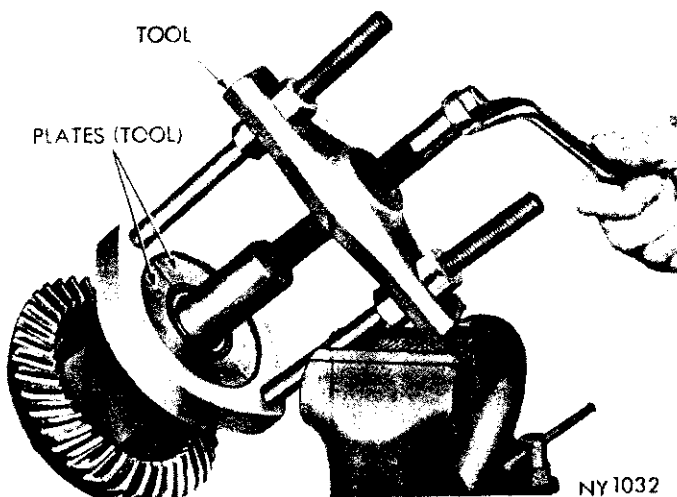

Fig. 14—Removing Differential Bearing Cone
(20) Rotate differential side gears until differential pinions appear at differential case windows and remove.
(21) Remove differential side gears and thrust washers.
(22) Remove differential bearings using Tool C-293 and #44 plates (Fig. 14).